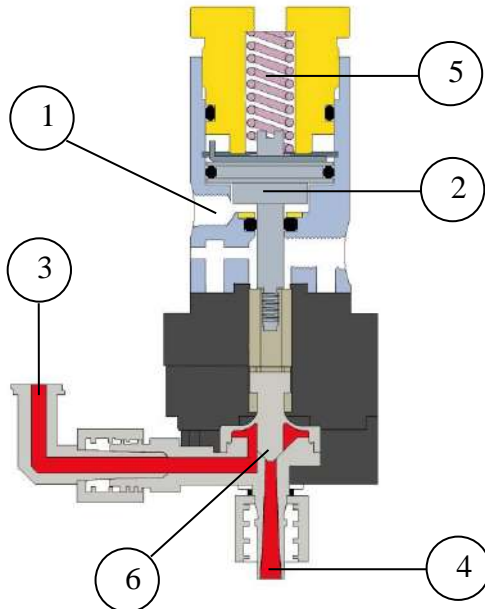

Figure 2.0
4. THEORY OF OPERATION (Refer to figure 2.0)